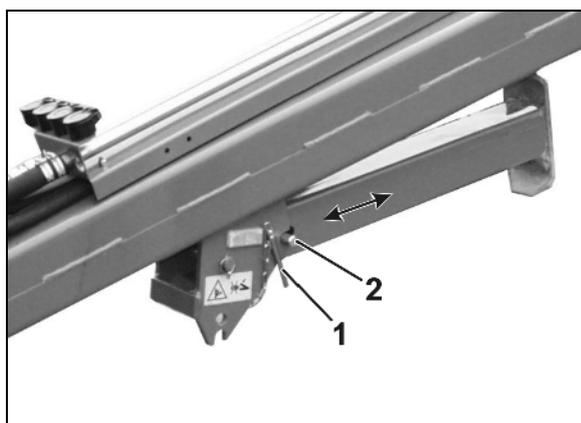

Fig. 73
- Stand raised during use or transportation (Fig. 73).
2. Remove the bolt (Fig. 73/1).
3. Swivel the additional support (Fig. 73/2) and raise/lower the stand.